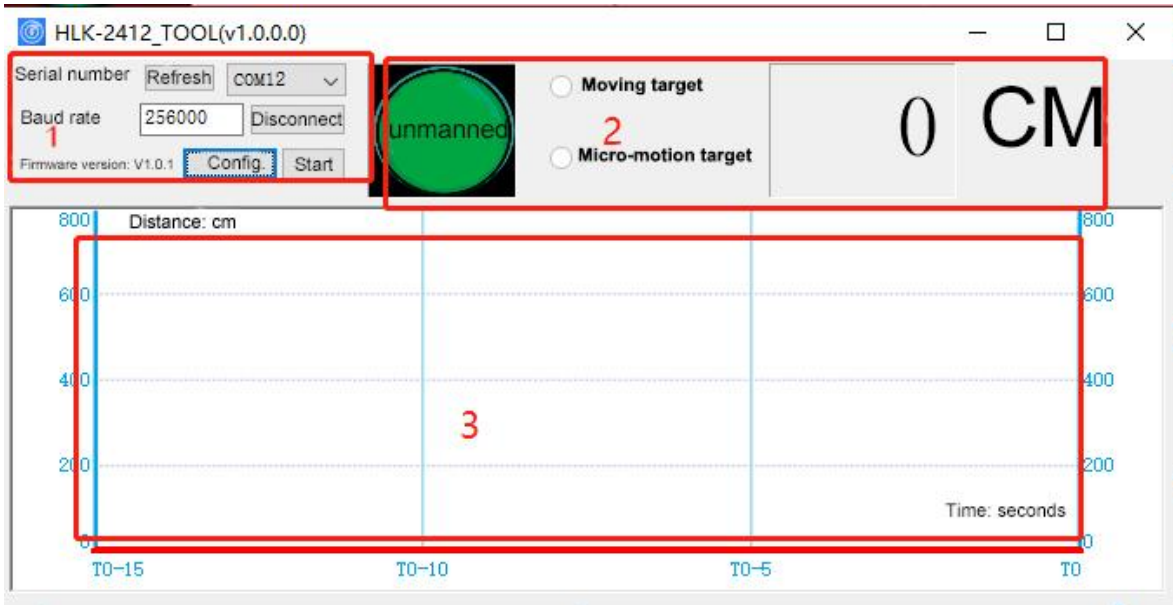

Figure 3 Upper computer
Step 1: Open the host computer software, the software interface is shown in Figure 3; click the "Refresh" button on the interface, select the corresponding serial port number of the radar module and enter the corresponding baud rate, and then click "Connect Device"; after the connection is successful, the text on the button will change to "Disconnect Device", and the firmware version number of the radar module will be displayed in "Firmware Version"